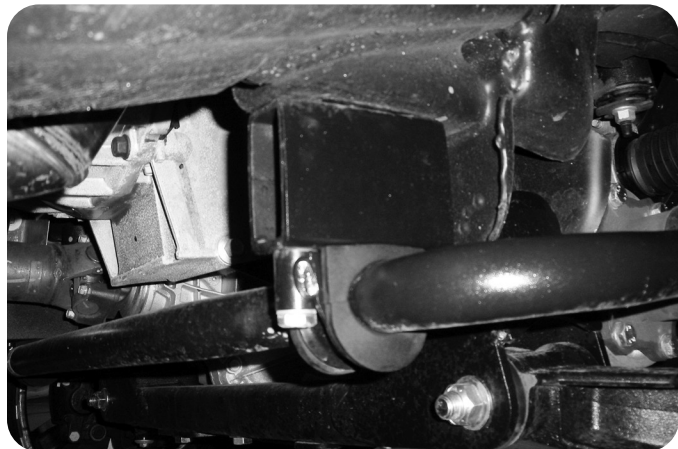

Figure 19
39. Attach the factory front sway bar to the original mounts in conjunction with the provided drop brackets and 10mm x 130mm bolts/washers. Use Loctite on the bolt threads and torque to 45 ft-lbs Figure 19.